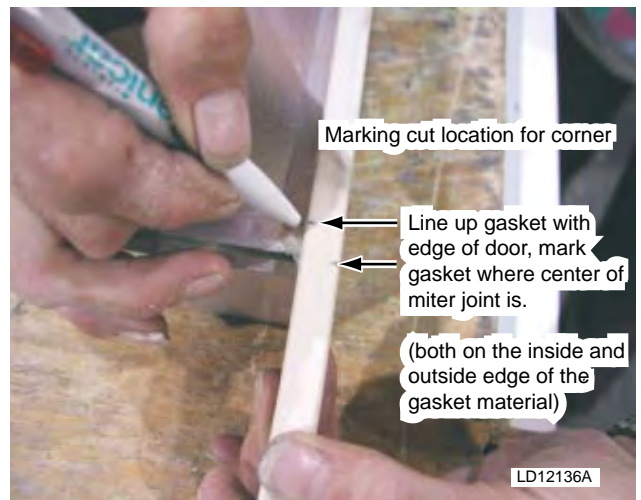

FIG. 5-35 – MARK LOCATION FOR CUTTING NEXT CORNER
- Mark the gasket (both on the inside and outside edge of the gasket material) where the center of the miter joint on the aluminum doorframe perimeter is located (see Fig. 5-35).